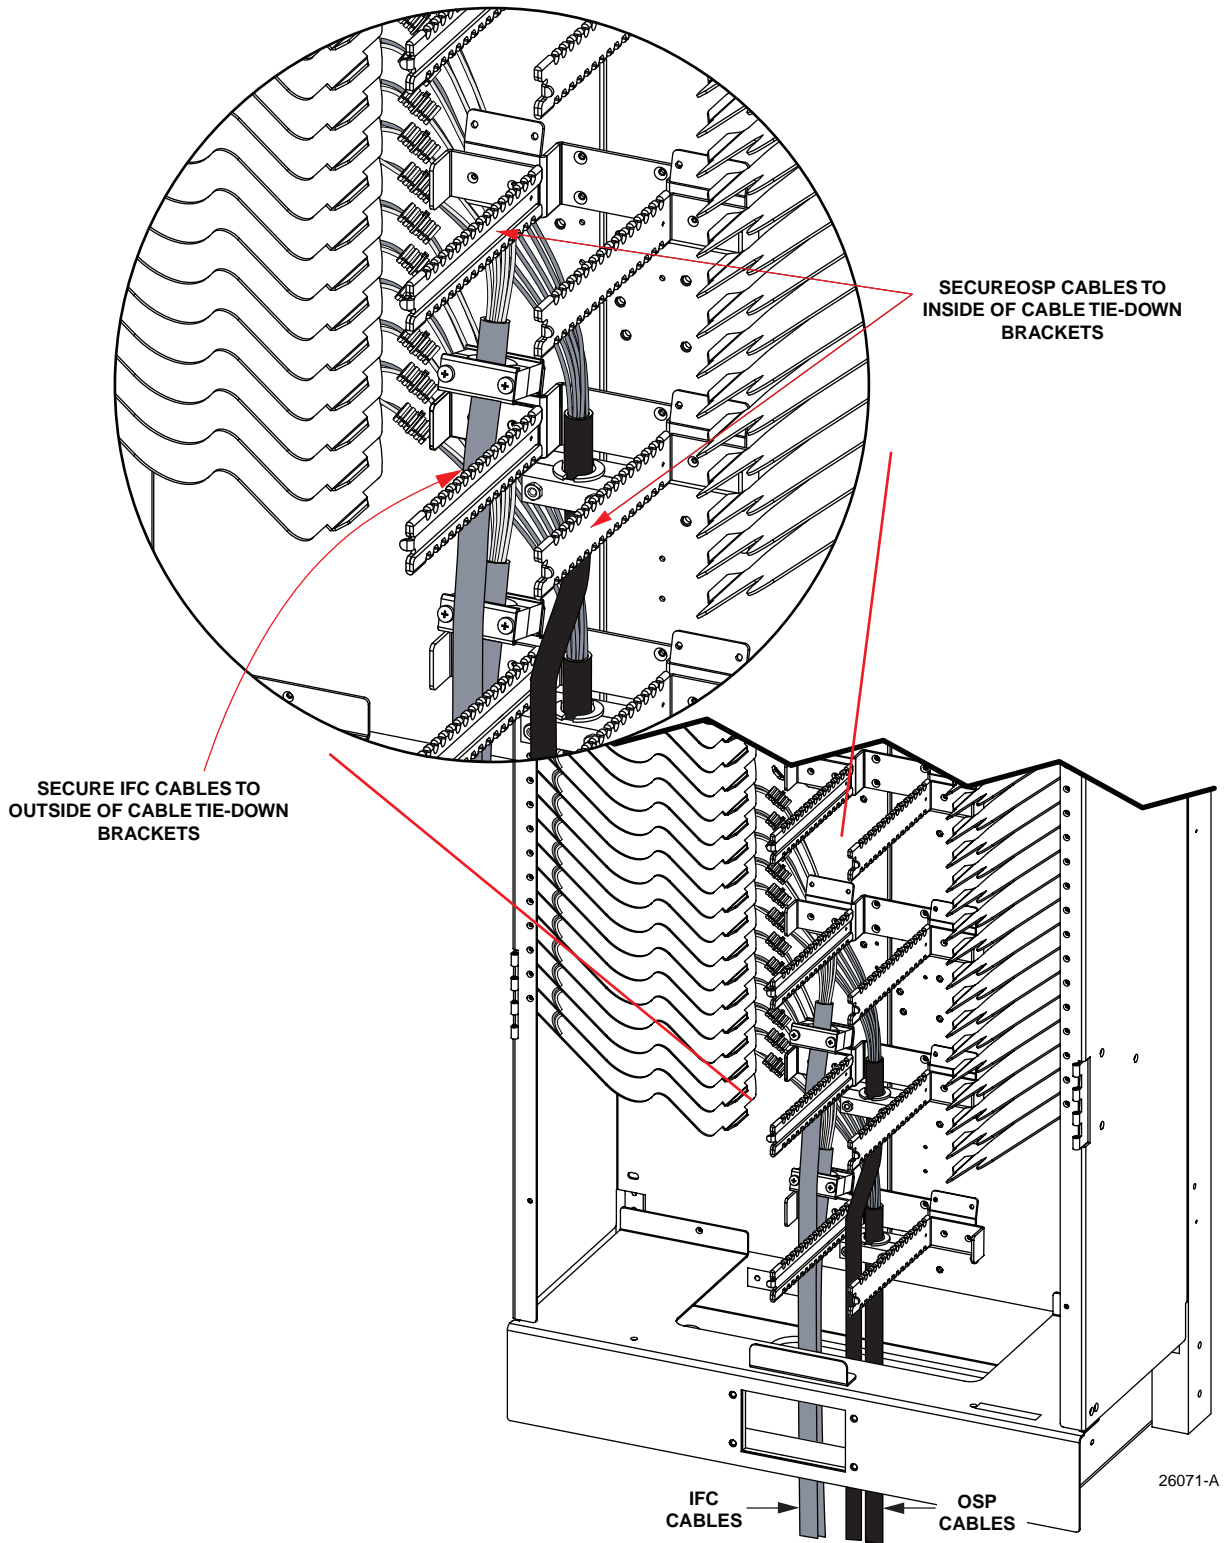

Figure 18. OSP and IFC Cable Routing Method (72-Fiber IFC Configuration)
3. Continue routing OSP and IFC cables as shown in Figure 18.